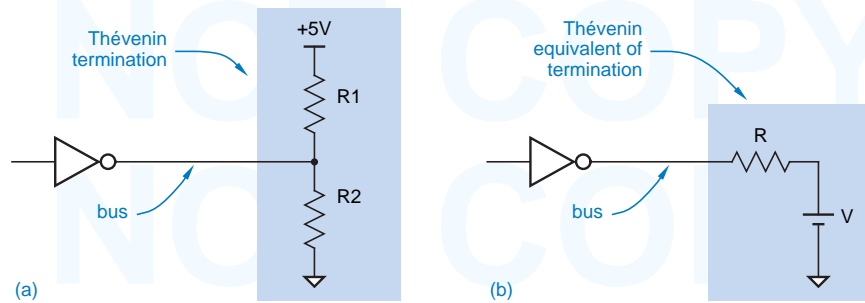

Figure X3.99
3.99 A *Thévenin termination* for an open-collector or three-state bus has the structure shown in Figure X3.99(a). The idea is that, by selecting appropriate values of  $R1$  and  $R2$ , a designer can obtain a circuit equivalent to the termination in (b) for any desired values of  $V$  and  $R$ . The value of  $V$  determines the voltage on the bus when no device is driving it, and the value of  $R$  is selected to match the characteristic impedance of the bus for transmission-line purposes (Section 11.4). For each of the following pairs of  $V$  and  $R$ , determine the required values of  $R1$  and  $R2$ .